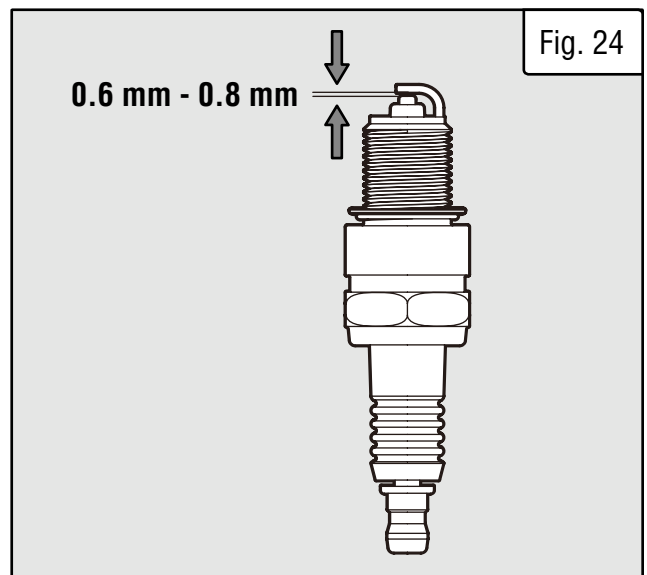

Fig. 24
5. Measure plug gap with a spark plug gap gauge. Gap should be 0.6 to 0.8 mm. Adjust gap if necessary. (Fig. 24)